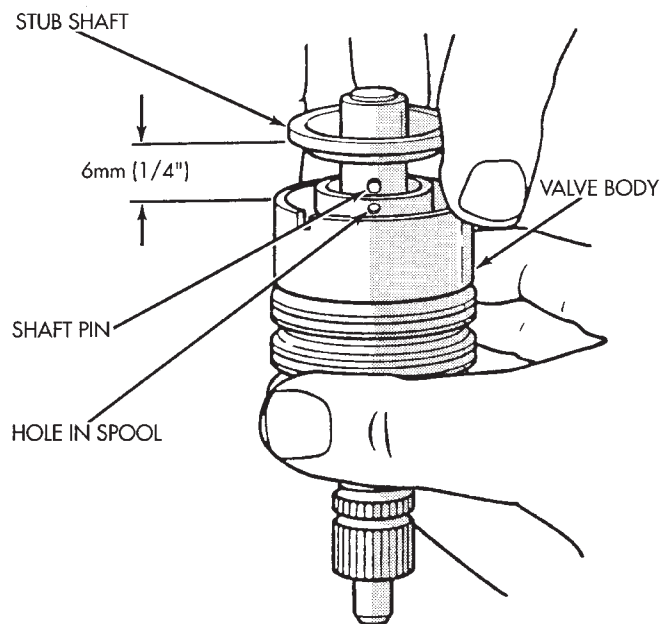

Fig. 14 Stub Shaft
- (5) Remove stub shaft from valve assembly by lightly tapping shaft on a block of wood to loosen shaft. Then disengage stub shaft pin from hole in spool valve and separate the valve assembly from stub shaft (Fig. 14).